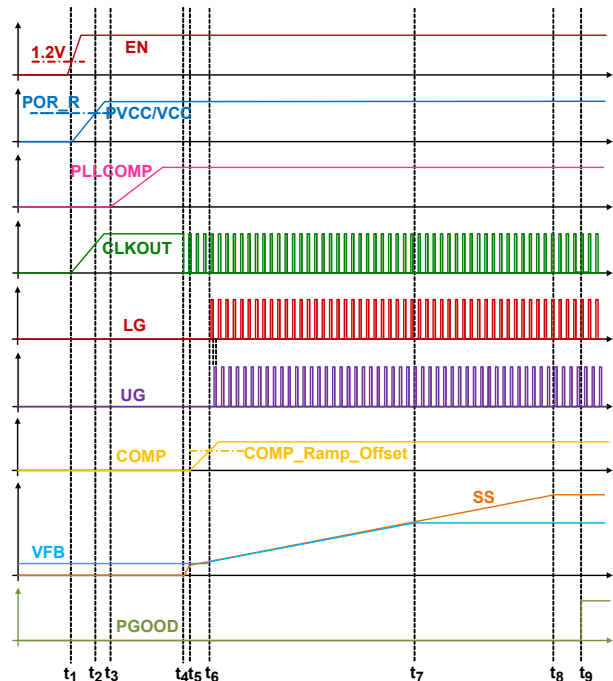

FIGURE 67. CIRCUIT INITIALIZATION AND SOFT-START
- There is no limit for the minimum voltage on the TRACK pin, but note the lower reference voltage and the lower voltage feedback regulation accuracy. Note the SS\_DONE signal is checking  $V_{REF\_TRK} \geq 0.3V$  as one of the conditions (refer to the  $t_g$ - $t_g$  description on page 31 and Figure 67 on page 30). Also, for the boost converter, the regulated output minimum voltage is usually the input voltage minus the upper MOSFET's body diode drop, in which case, the corresponding voltage at FB voltage is the minimum effective voltage for the  $V_{REF\_TRK}$  and  $V_{REF\_DAC}$ .
Before converter initialization, the EN pin voltage must be higher than its rising threshold and the PVCC/VCC pin must be higher than the rising POR threshold. When these conditions are met, the controller begins initialization and soft-start. Figure 67 shows the ISL78229 internal start-up timing diagram from the power-up to soft-start.
Assuming input voltage is applied to the VIN pin before  $t_1$  and VCC is connected to PVCC, as shown on Figure 67, the start-up procedure is described as follows:
Diode emulation occurs during t5-t8 (on Figure 67 on page 30), regardless of the DE/PHDRP operating modes (Table 2).
After the ISL78229 is enabled, during the part initializing time  $t_1 - t_4$  (refer to Figure 67 on page 30) before soft-start, the SALERT pin is kept pulled low. If no faults (listed in Table 4 on page 41) occur during  $t_1 - t_4$ , the SALERT pin open-drain transistor is open at  $t_4$  when soft-start begins and the pin voltage is pulled high by the external pull-up circuits. If any fault in Table 4 on page 41 occurs after the beginning of soft-start, the corresponding bit of the FAULT\_STATUS register is set to 1 and the SALERT pin is pulled low.